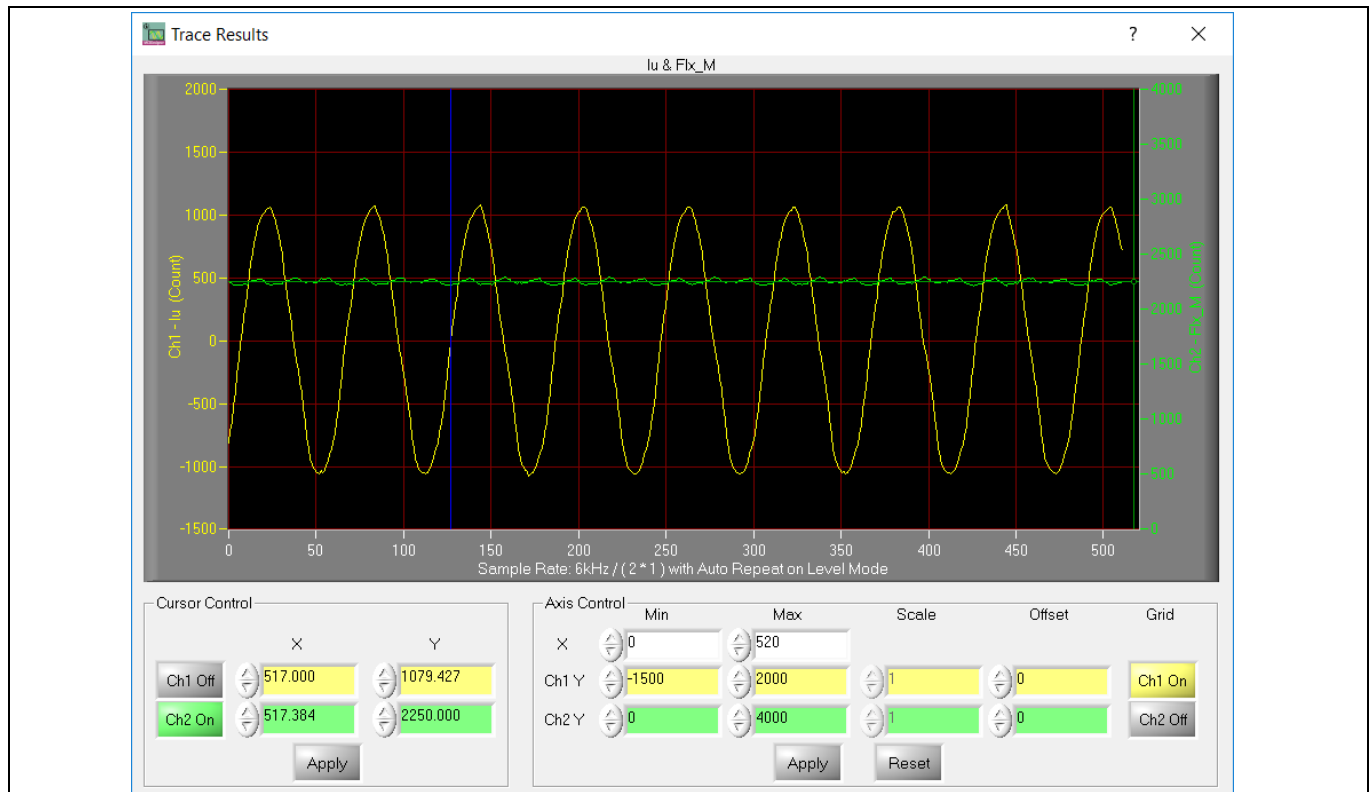

Figure 10 Trace waveform for Iu & Flx-M at 50% speed
13. Set target speed to about 50% of MAX speed, start “Iu & Flx_M” trace with “Auto Repeat On Level,” see Figure 10. Flx_M is better within the range of 2000~2500 (rated value is 2048), and MUST be steady and DC-like.